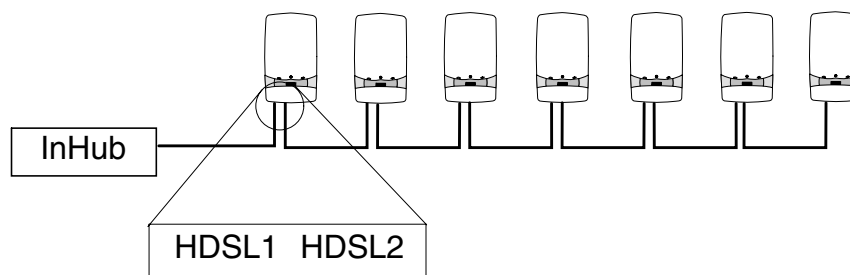

Figure 1. Chain configuration
- Figure 1. Chain configuration **16**
Figure 1 shows a chain configuration where Nokia InSite Base Stations are connected to Nokia InHub Data Service Unit. In this type of configuration, you can go through the commissioning procedure steps 1-16 with a minimum number of changes to the default settings. However, if there is a need to change the LIF Settings or Synchronization Settings, or to create the cross-connections, see also section 4.2 and Chapter 5.